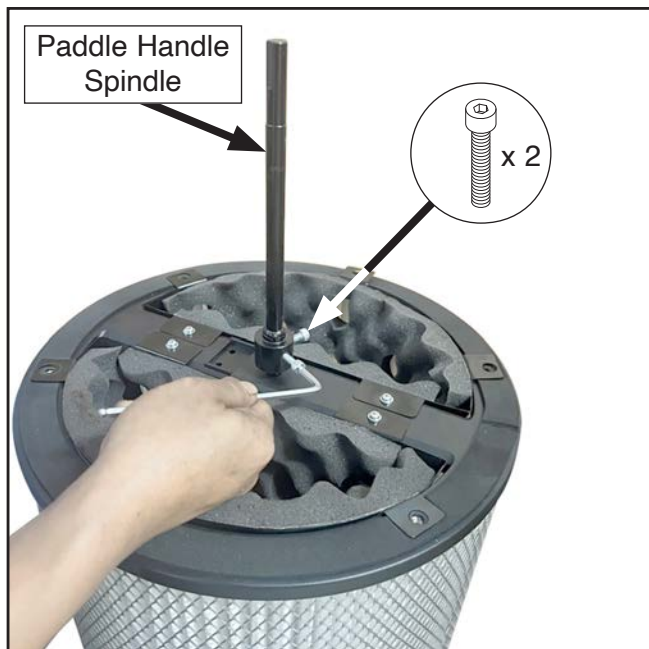

Figure 63. Removing paddle handle spindle.
7. Remove (2) M6-1 x 16 cap screws and paddle handle spindle from filter assembly, as shown in **Figure 63**.